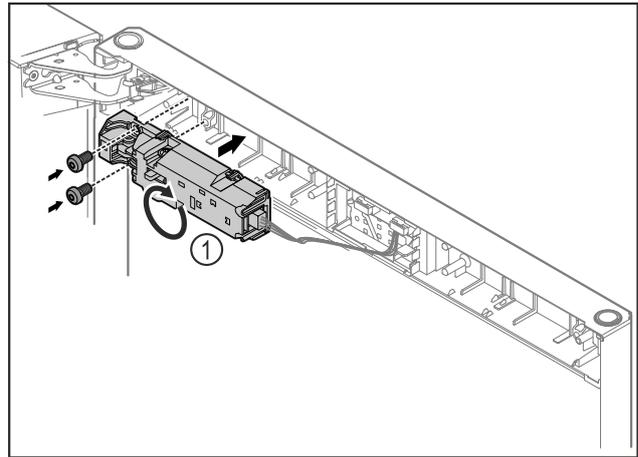

Fig. 13
- ▶ Turn the remote lock Fig. 13 (1) by 180° and attach on the opposite side.